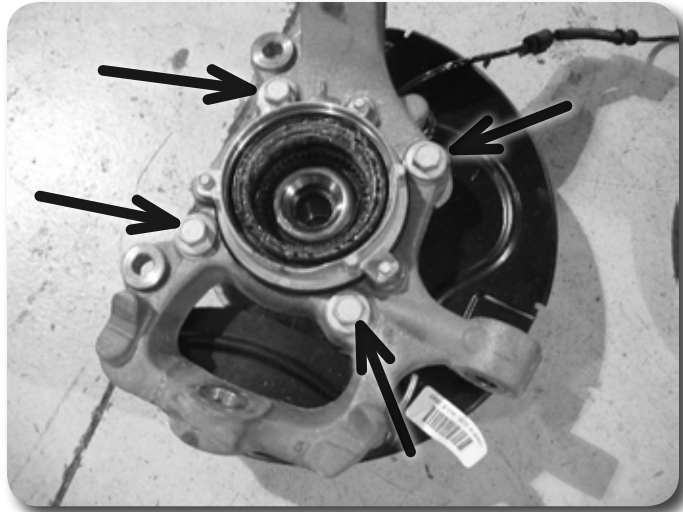

Figure 30
49. Remove the four hub bolts from the knuckle and remove the hub from the knuckle (Figure 30).